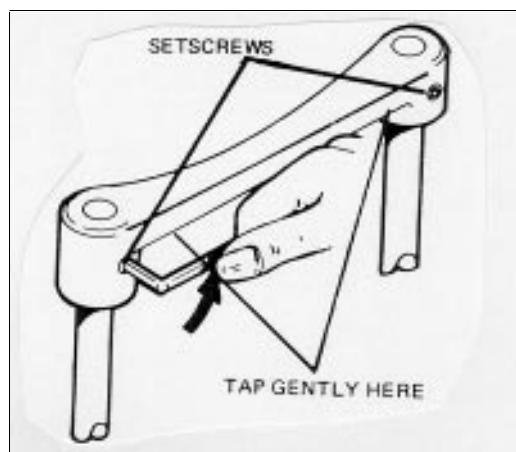

Figure 5-12. Removal of Upper Slide Bar
**5. Replacement of Upper Slide Bar (Figure 5-12)**